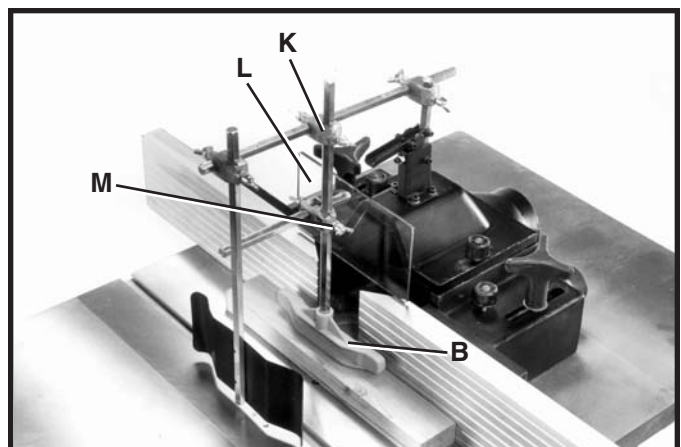

Fig. 55
2. Adjust holddown (B) Fig. 55, by placing a piece of material which will be used on the table as shown. Loosen thumb screws on guard mounting bracket (K) and adjust holddown (B) over top of workpiece to provide some downward pressure and tighten thumb screws.
3. Adjust clear plastic guard (L) Fig. 55, by loosening thumb screws on guard mounting bracket (M) and locating the guard so it will deflect the wood chips and provide protection from reaching the cutter; then retighten thumb screws.